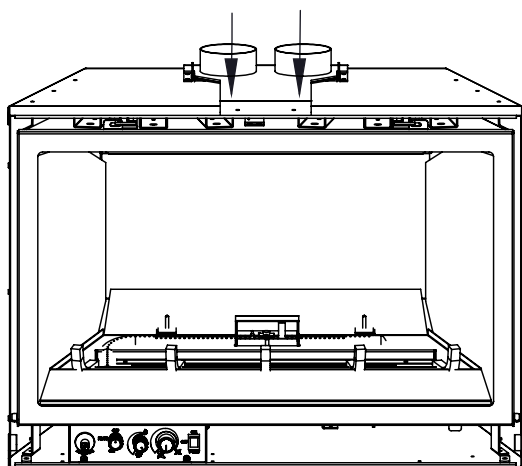

Figure 21: Vent Collar Plate Screw Location.
5. If the fireplace opening is lower than 24" (610 mm), remove the vent collar plate from the top of the insert by unscrewing the two (2) T-20 Torx screws located on the center top of the stove above the door opening (see Figure 21). Slide the collar plate backwards. Properly secure the vent collar plate to the flexible vent pipe liner(s) previously installed in the chimney. Be careful not to over-stretch the liner(s).